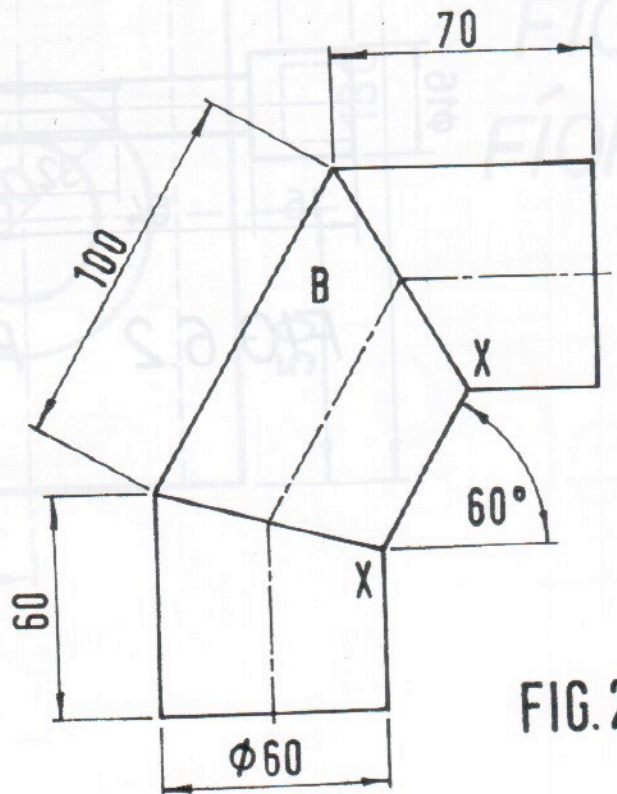

FIG. 2
2. Fig. 2 shows three pipes of 60 mm diameter with their axis in the same plane and forming a bend through 90°.